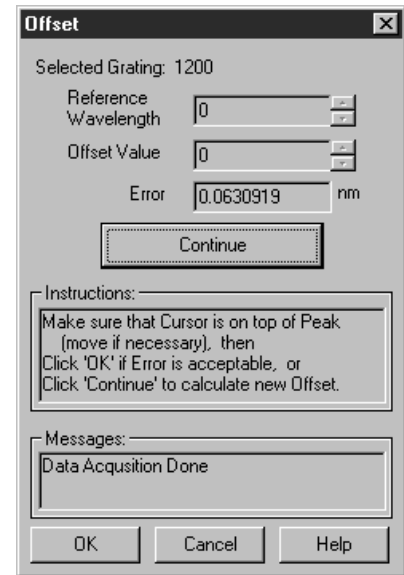

Figure 67. Spectrograph Calibration dialog box
3. Select **Calibrate** on the Spectrograph menu. This will open the Spectrograph Calibration dialog box (Figure 67).